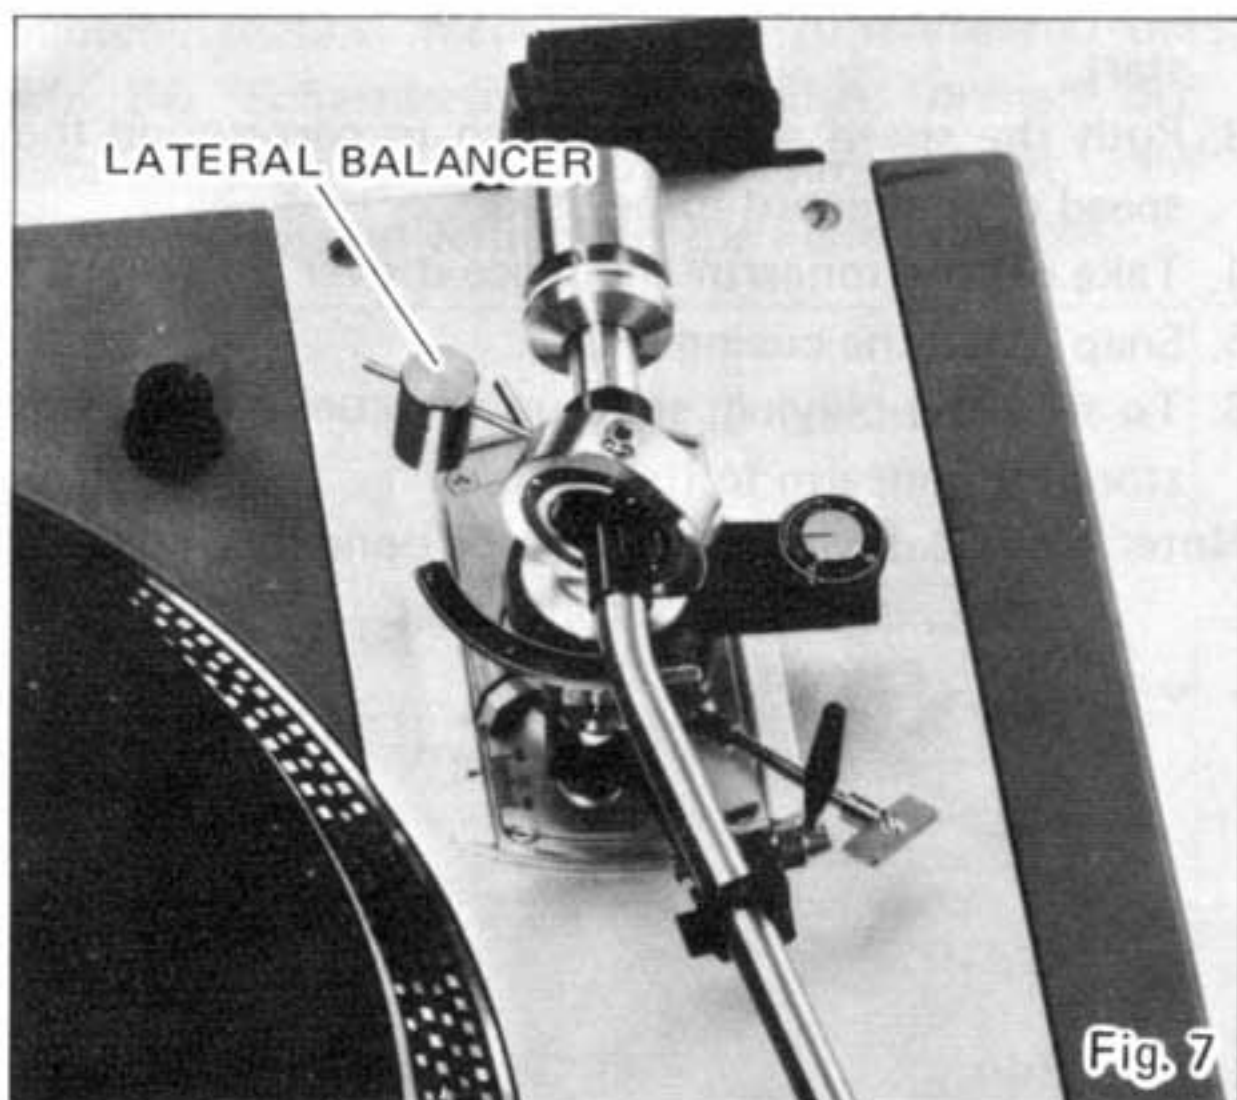

Fig. 6
1. Turn the main weight clockwise or counter-clockwise and balance the tonearm horizontal (Fig. 6).